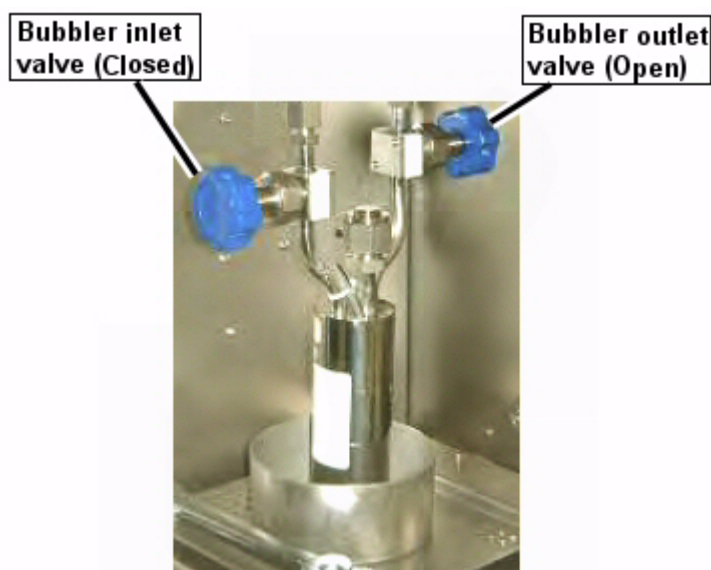

Figure 5-42 Ampoule manual valves set for vapour draw mode
- 1 Check that the manual ampoule inlet valve is closed (see Figure 5-42).